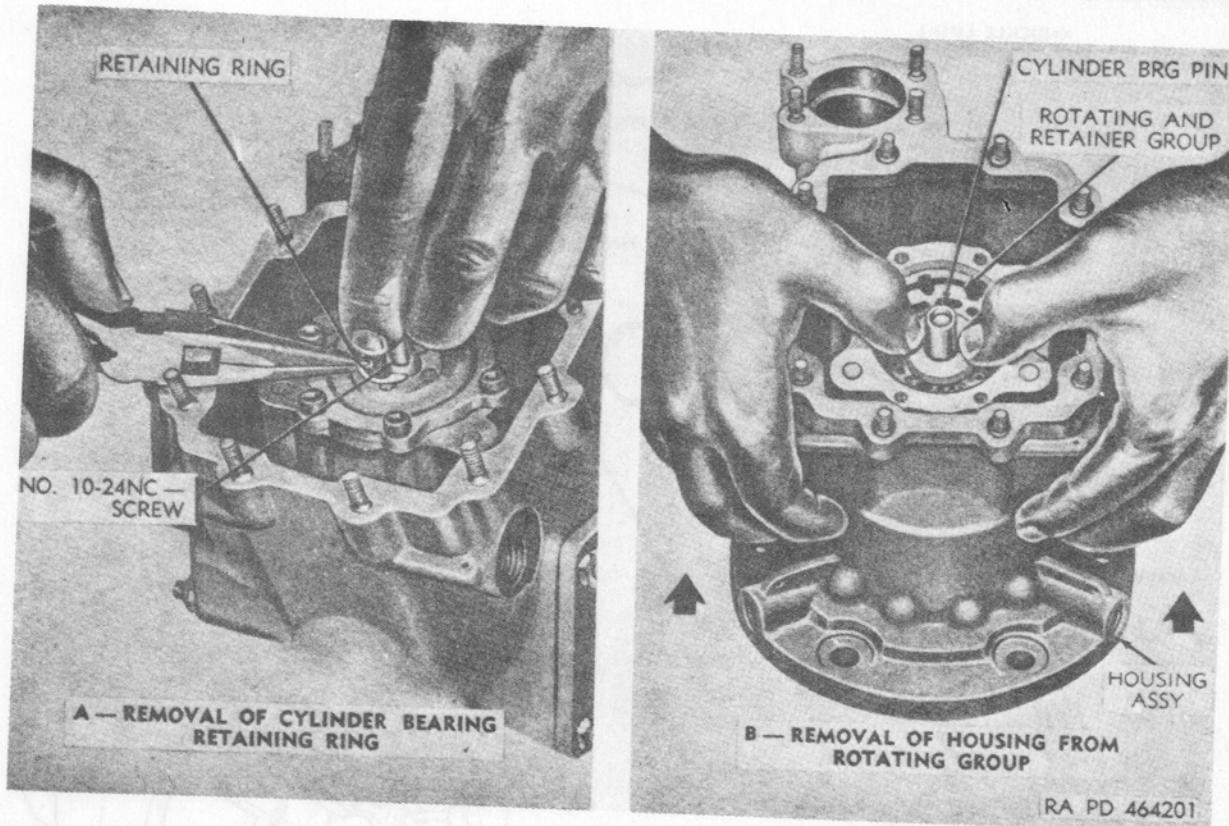
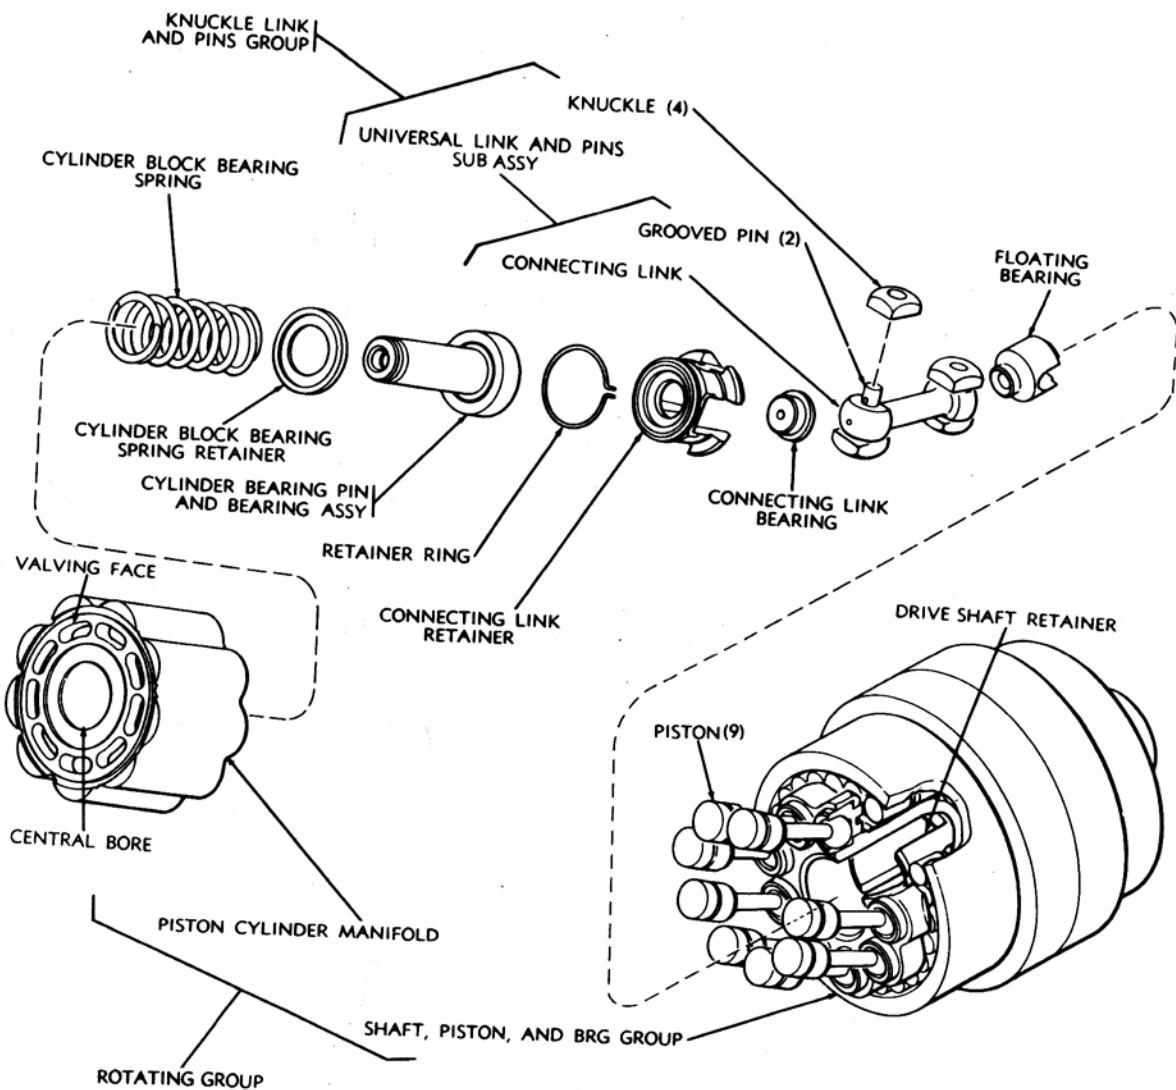

Figure 129. Axial pistons pump assembly—disassembly and assembly—continued.
Figure 130. Rotating group—disassembly and assembly.
(j) Insert a No. 10-24NC screw (A, fig. 129) into the threaded cylinder bearing pin and remove the retaining ring.
(k) Break the seal between the piston cylinder manifold (fig. 130), the yoke plate (D, fig. 126), and face of swivel yoke (J, fig. 126) by holding the cylinder bearing pin (B, fig. 129) down while removing the yoke plate.
(m) Remove the rotating and retainer group (B, fig. 129) by lifting the housing while holding the rotating
- (o) Hold the rotating group (Q1, fig. 126) firmly (shaft end down), grasp the piston cylinder manifold (fig. 130) and gently pull it straight up and off the shaft, piston, and bearing group.
- (u) Place two small wood blocks about $\frac{1}{2}$ -inch apart. Lay the piston cylinder manifold down so that the central bore (fig. 130) of the manifold (valving-face down) is over the space between the wooden blocks.
Note. Any irreparable damage to the manifold (fig. 130) or the pistons requires replacement of the complete rotating group. This is because each piston is individually fitted to its respective cylinder bore and the parts are, therefore, not interchangeable.
- (e) **Knuckle link and pins group** (fig. 130).
Caution: The shaft, piston, and bearing group (fig. 130) fits tightly in the sleeve. Be extremely careful not to allow the bearing group to become tilted. If it does, remove the bearing group and start over again. Do not use force.
- (f) Keeping the piston cylinder manifold (fig. 130) in position on the pistons of the bearing group, slide the housing assembly (R) down around the rotating and retainer group (Q) until the preformed packing (Q4) around the seal retainer (Q5) offers some resistance.
- (g) Apply enough weight to the housing assembly (R) to overcome the resistance of the preformed packing (Q4), and seat the seal retainer (Q5) in the housing assembly.
- (h) Insert a No. 10-24NC screw (A, fig. 129) into the end of the cylinder bearing pin.